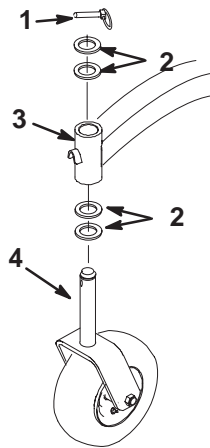

Figure 73
2. Remove the locking pin and spacer(s) from the top of the caster wheel fork (Fig. 73).
6. Inspect the caster wheel fork for wear and replace if necessary (Fig. 73).
7. Slide the caster wheel fork through the bushings in the mounting tube. Replace the spacer(s) onto the fork and secure with the retaining ring (Fig. 73).